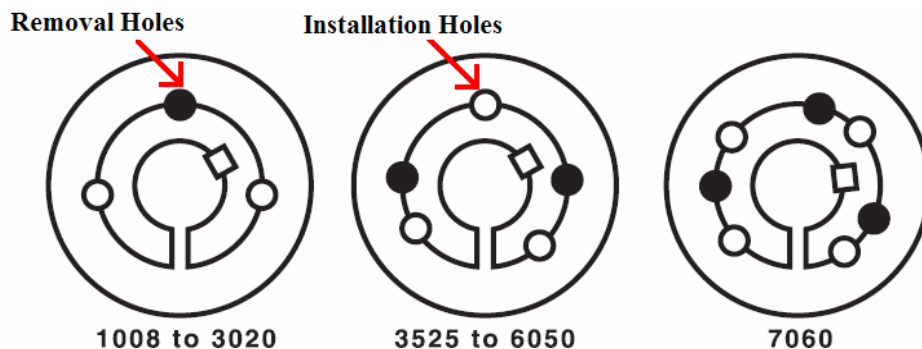

Figure 1 – Taper-Lock Bushing Installation Diagrams
2. Insert the bushing into the sprocket/sheave hub and align the holes. All of the holes should be half threaded. The installation holes will be threaded on the sprocket side, but not the bushing side. The removal holes will be threaded on the bushing side, but not the sprocket side. See Figure 1 below.
3. "LIGHTLY" oil the bolts and thread them into the half-threaded installation holes indicated by the white installation holes in Figure 1.
2. Insert bolts into all jack screw holes indicated by dark removal holes in Figure 1 on page 1.